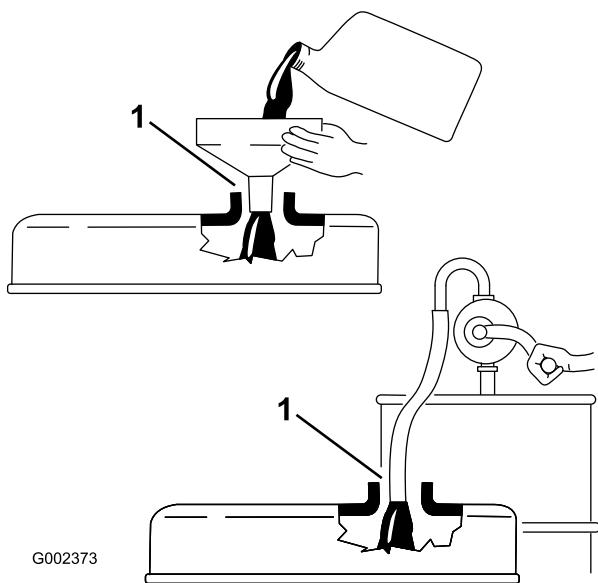

Figure 24
**Important:** Make sure that the dipstick is removed while filling the engine with oil. When adding engine oil or filling oil, there *must be* clearance between the oil fill device and the oil fill hole in the valve cover as shown in Figure 24. This clearance